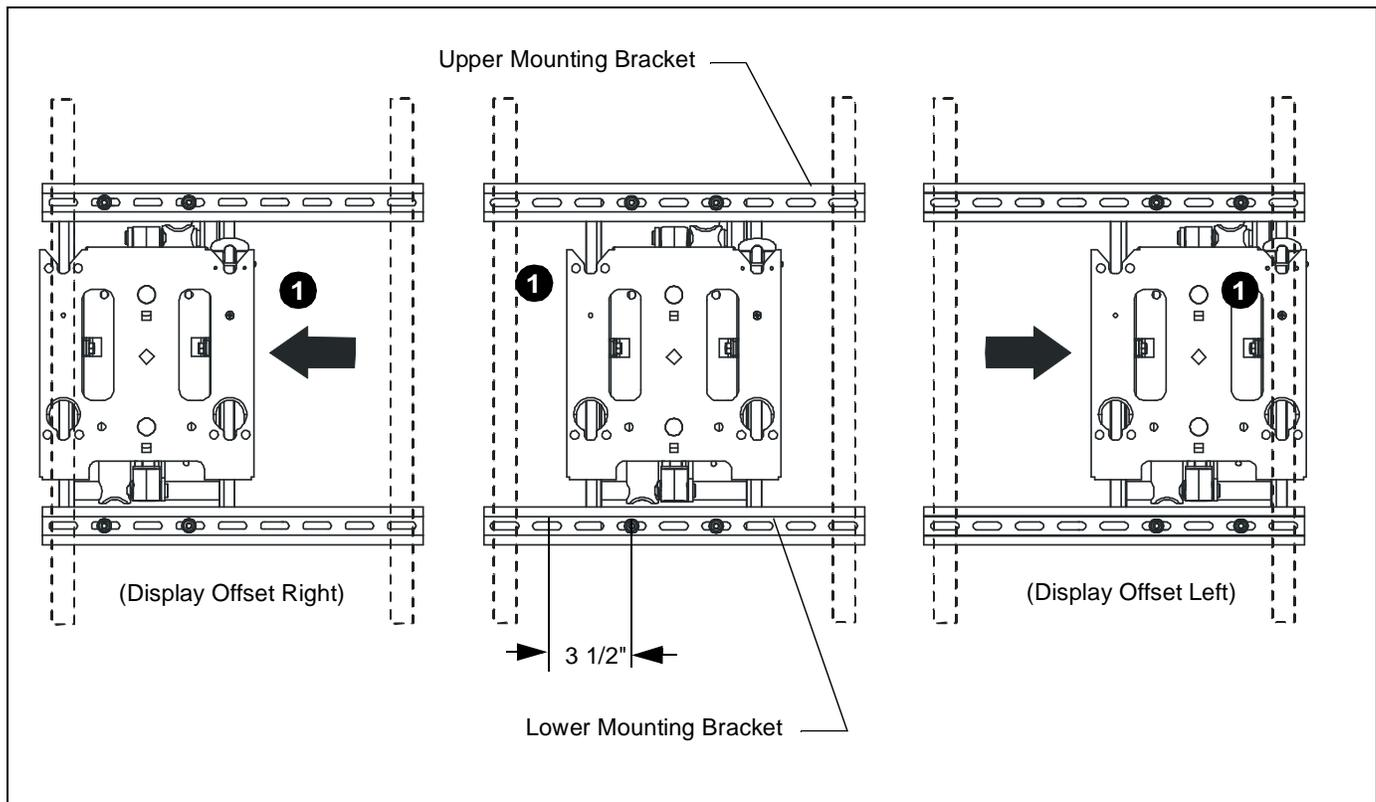
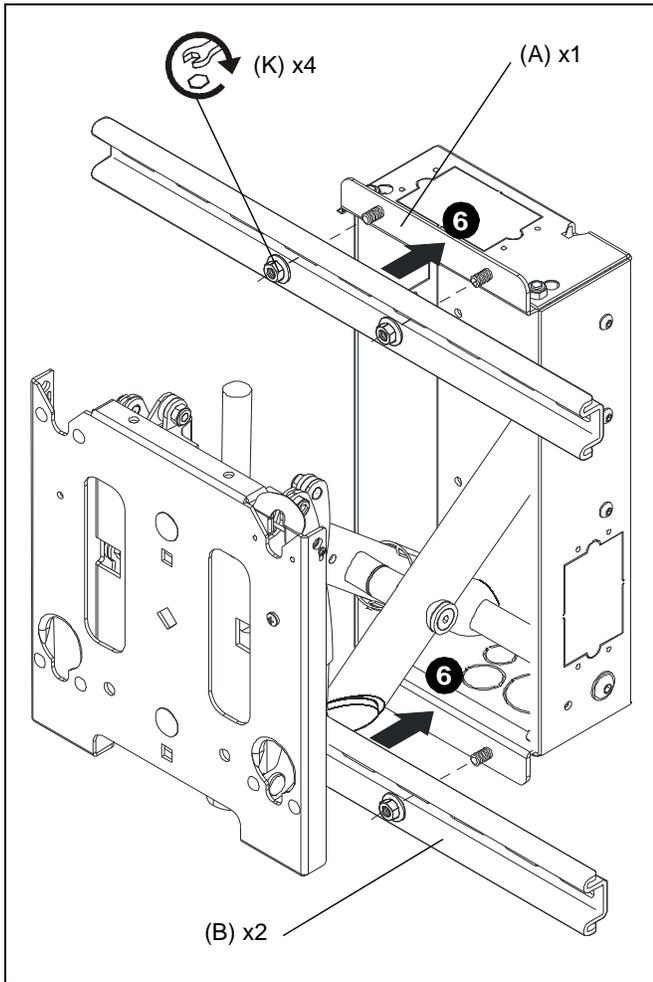

Figure 3
Figure 4
The MIW Series is designed to accommodate up to 3 1/2" of lateral shift adjustment (right or left display offset from center of studs). This is accomplished by aligning the upper and lower mounting studs on the housing with either the right hand or left hand mounting holes in the upper and lower mounting brackets. (See Figure 3)
3. Determine desired lateral shift required. (See Figure 3)
6. Assemble upper and lower mounting rails (B) to mount (A) in slots that correspond to the desired lateral shift offset identified during step 3 above using four flanged nuts (K). (See Figure 3) and (See Figure 4)
7. Install J-box (s) and route all in-wall cables and wiring to mount enclosure keeping in mind and lateral shift offset determined during step 3 above. (See Figure 3)